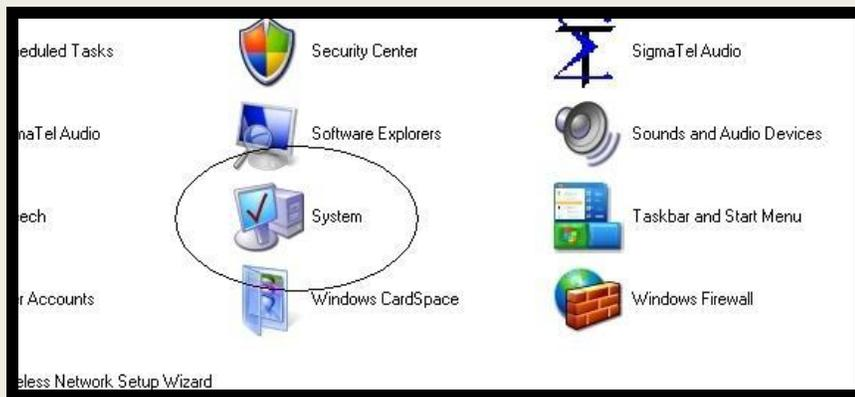

Fig. 1
2. Then, find and click on the System icon or link. (Fig. 1)